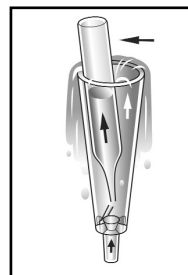

Figure 1
2. Place the Vacu-vial ampoule, tip first, into the sampling tube. Snap the tip. The ampoule will fill leaving a bubble for mixing (fig. 1).